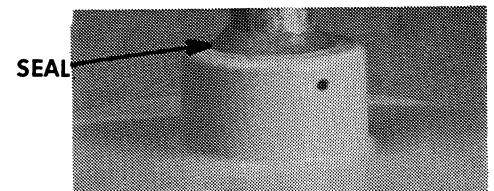

Figure 3
4. Securely tighten set screw "C" against conduit and, using a sealing or caulking compound, completely fill space around conduit as shown in Figure 3.